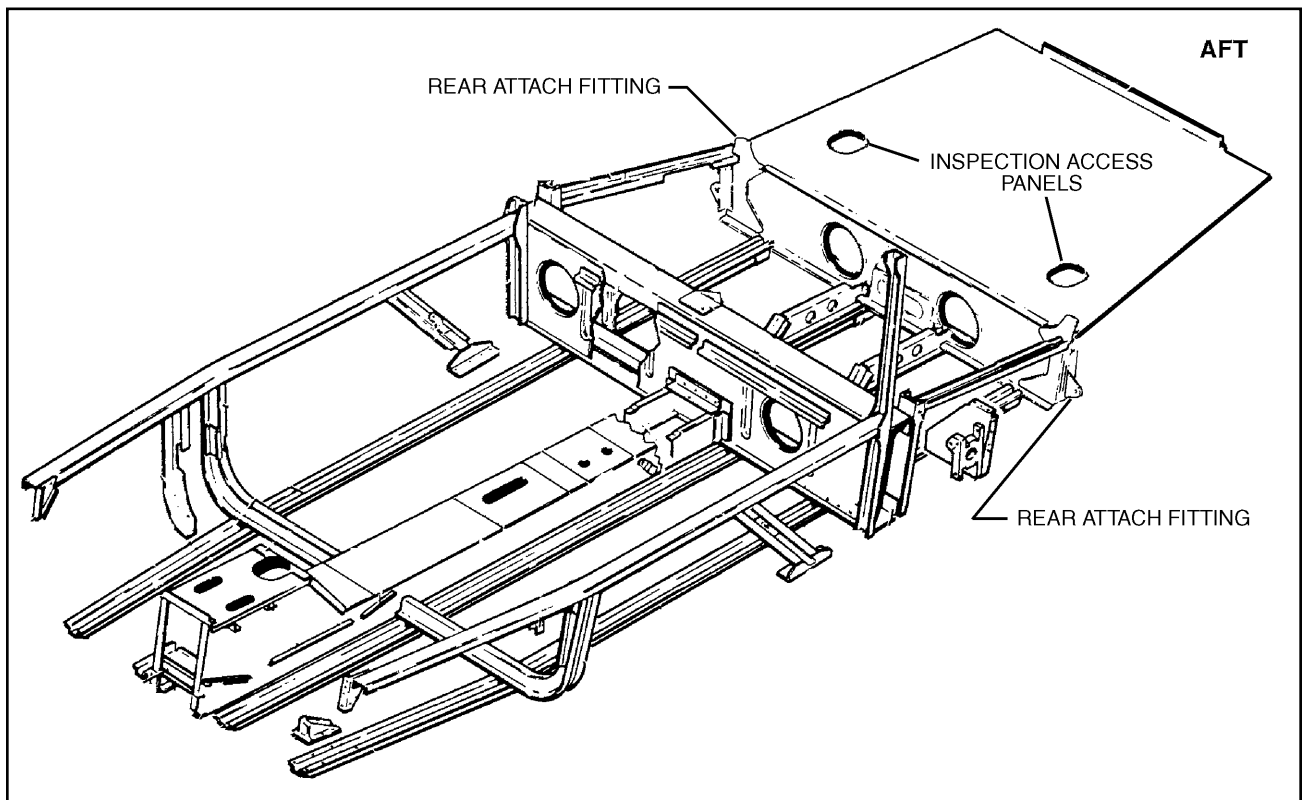

Figure 3-10. Wing Attach Fittings
- 1 Gain access to the left and right aft wing attach fittings. (See Figure 3-10.)
(c) Removal and Installation Procedure (if required). (See Figure 3-10.)